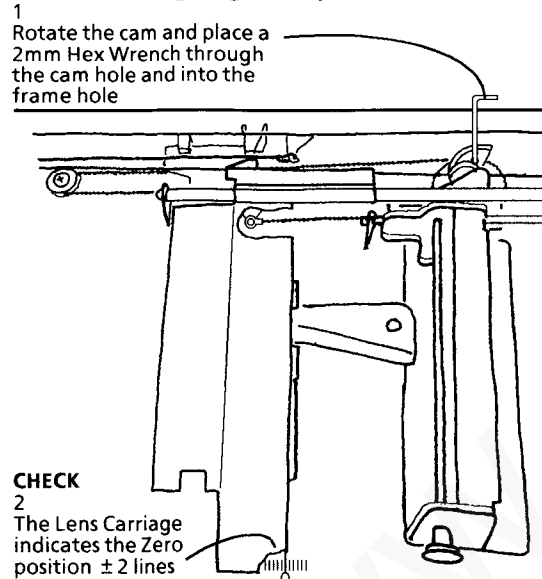

Figure 1. Checking the Lens Cable
4. Check the Lens Cable (Figure 1).
NOTE: In step 1 of Figure 1, the 2mm Hex Wrench will fit loosely. Position the wrench as shown before going to step 2.
NOTE: In step 3 of Figure 1, the 2mm Hex Wrench will fit loosely. Position the wrench as shown before going to the next step.